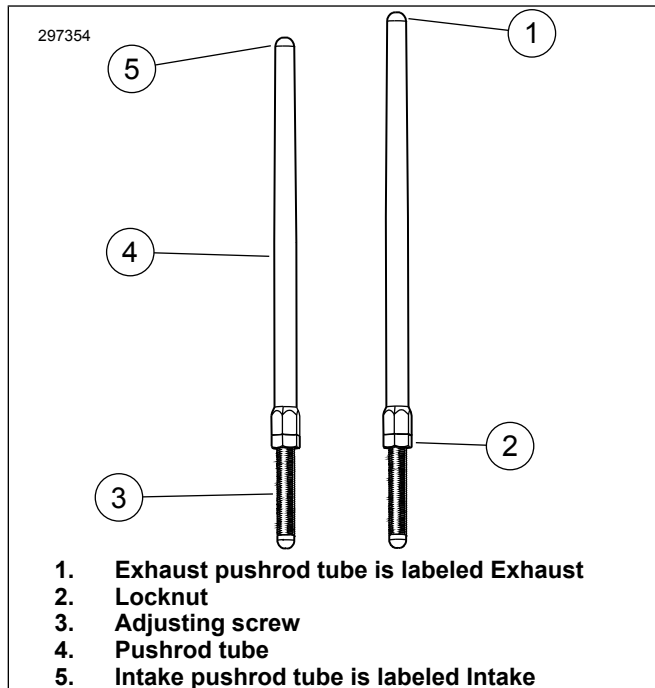

Figure 3. Adjustable Pushrod
6. See Figure 3. Loosen locknut on all of the pushrods and adjust them to their shortest length.